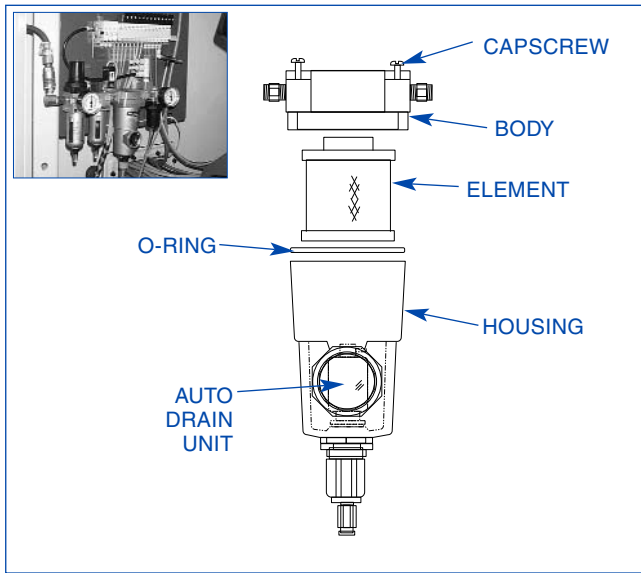

FIGURE 4-7, Ambient Dryer
5. Ambient Dryer (see Figure 4-7):